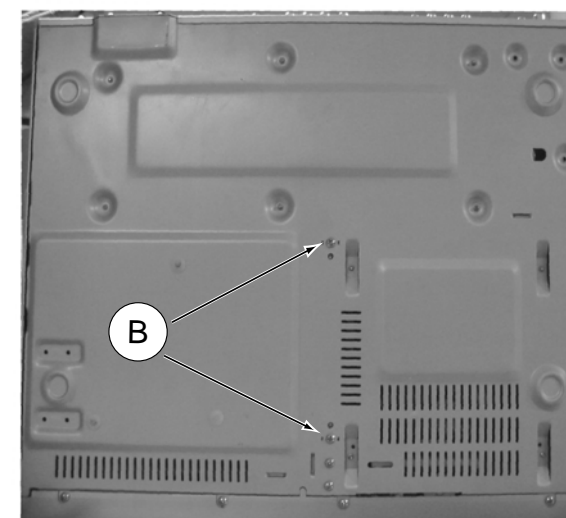

Figure 5
- 1) Loosen 2 screws "B" on the bottom cover as shown in figure 5.